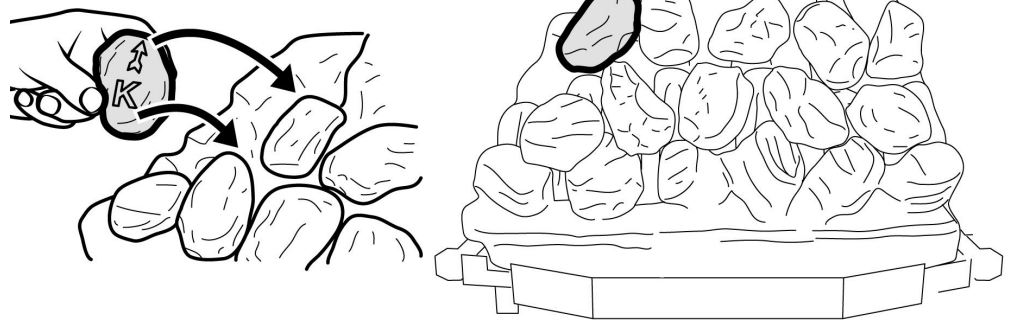

Figure 20. Second row "Coal K"
13. Hold coal 'K' upright with the arrow pointing to the top. Locate coal 'K' as shown in figure 20.